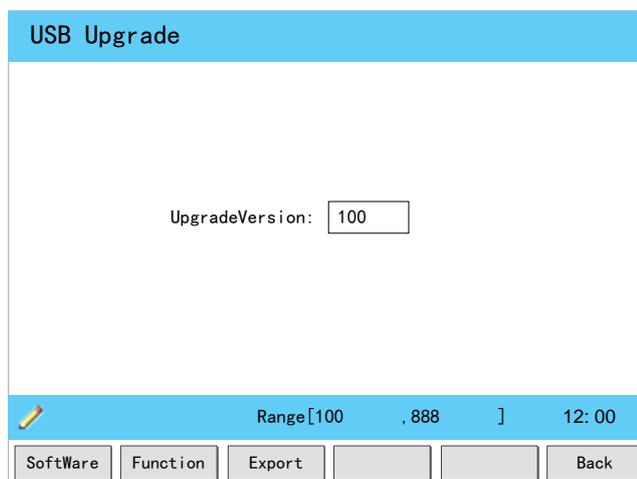

Figure E-1 The USB Upgrade page
- Step 3 Move the cursor on the **USB Update** option, and press **ENTER** key enter the **USB Upgrade** page, as show in Figure E-1.